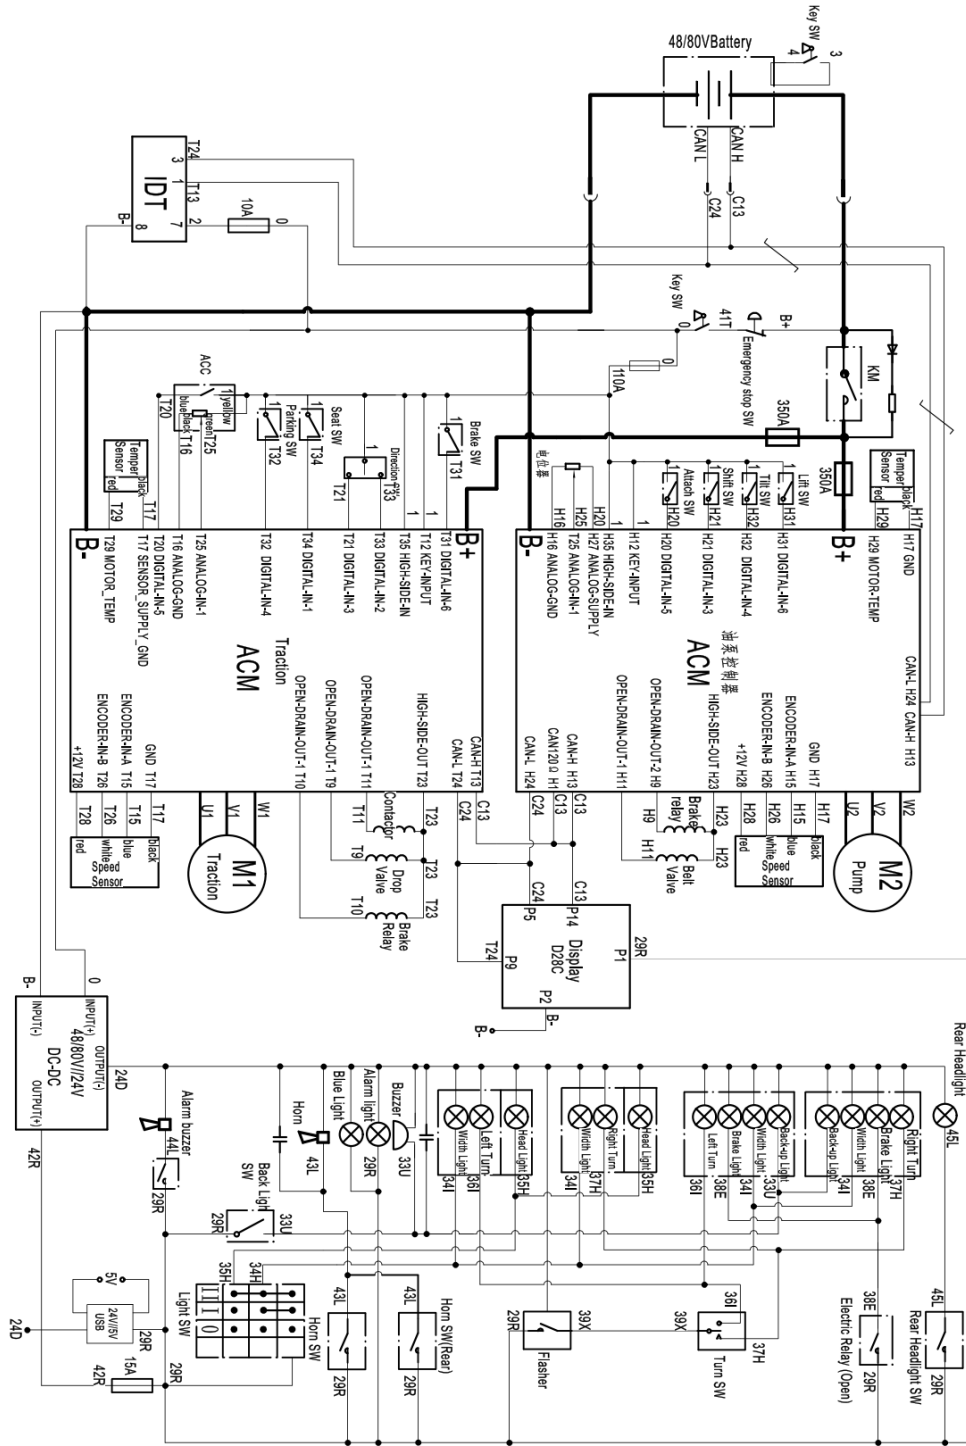

Figure 2-24 Electrical schematic diagram—ACM
4.2.3 Electrical schematic diagram—ACM(Figure 2-24)